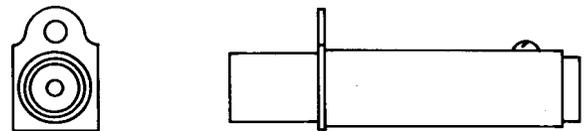

Fig. 18—487A Jack
2.13 487A: This coaxial-type jack (Fig. 18) is designed to be used with the 358A or similar-type plugs. This jack is not designed for cord connections. At the threaded end, the inner contact terminal is arranged for a soldered wire connection. The ac test voltage is 2000 volts. This jack forms a part of the 9A attenuator and the 26-type pads.